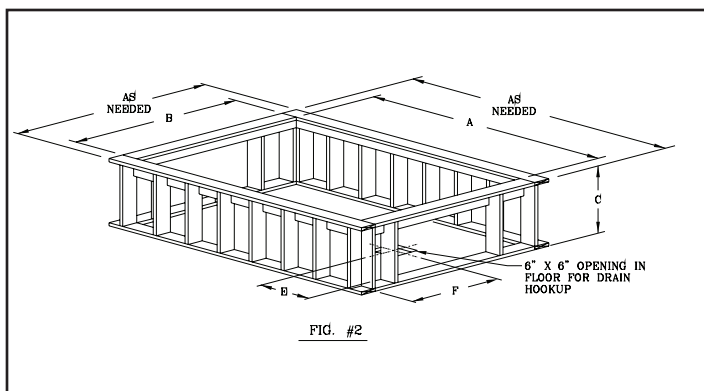

FIGURE 5
3.1 For rough in dimensions, you may measure your bathing fixture on the jobsite or log on to AquaGlass.com to obtain a specification sheet for your deck mount bathing fixture. Make sure frame is level and square (*See Figure 5*).